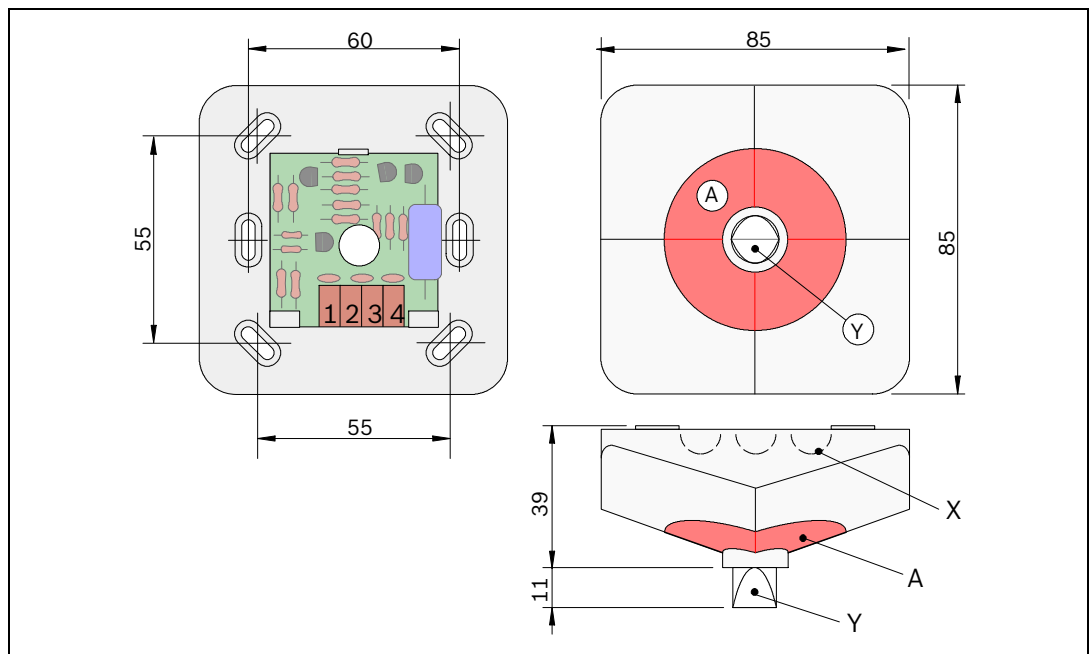

Figure 6.1 Installation of the MPA External Detector Alarm Display
- To feed cables through for surface mounting, punch out the prepared entry points (see *Figure 6.1*, item X) on the housing.
The flat side of the prism (see *Figure 6.1*, item Y) must follow the observer's line of sight.